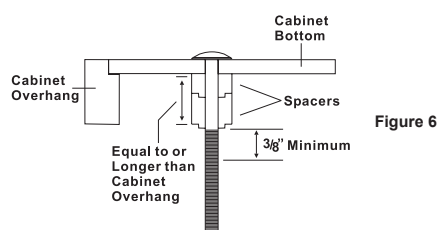

Figure 6
- e) Partially tighten each screw, but do not fully tighten the screws until all of them have been started (see Figure 6).